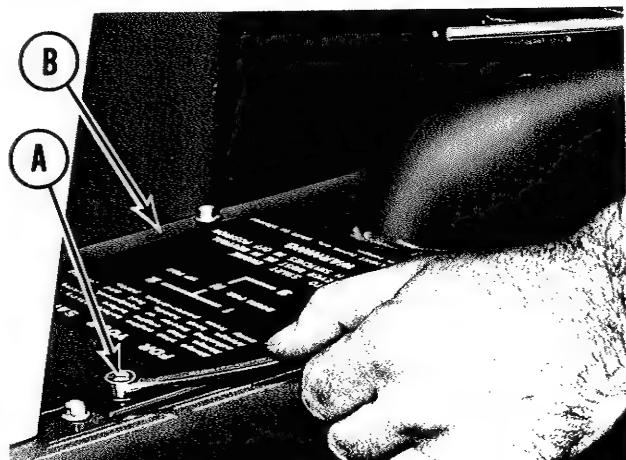

Figure 13. Cover plate over frame as seen from left side of tractor.
1. See figure 13. Using a 3/8 inch wrench remove the six capscrews (A) and cover plate (B) from the top of the frame in front of the tractor seat.
1. See figure 13. Using a 3/8" wrench, remove the 6 hex headed screws from the frame cover and remove the cover from the tractor.